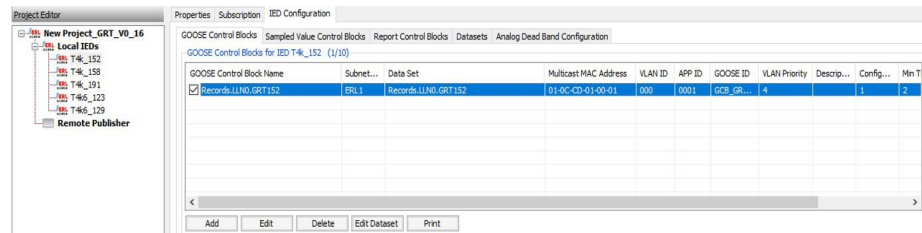

Figure 15.7: Create GOOSE Control Block for Group Record Trigger
4. Go to **Subscription -> GOOSE Mapping**, select the **Group Record Trigger** tab, and map each member's GRT output to its GRT inputs (Figure 15.7).